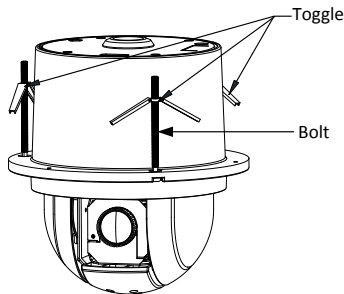

Figure 1-22 Install the Toggle Bolts
- 4). Reinstall the toggles as shown in Figure 1-22.